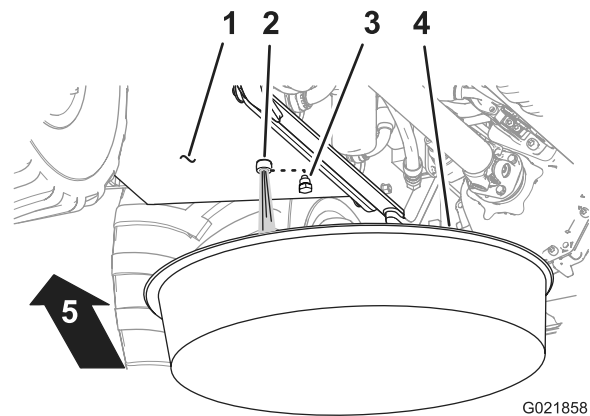

Figure 92
4. Place a container that can hold a minimum of 75.7 L (20.0 US gal) under the hydraulic reservoir drain plug (Figure 92).
- Remove the drain plug from the hydraulic reservoir (located underneath the reservoir), and drain the reservoir (Figure 92).
- Install the drain plug (Figure 92).